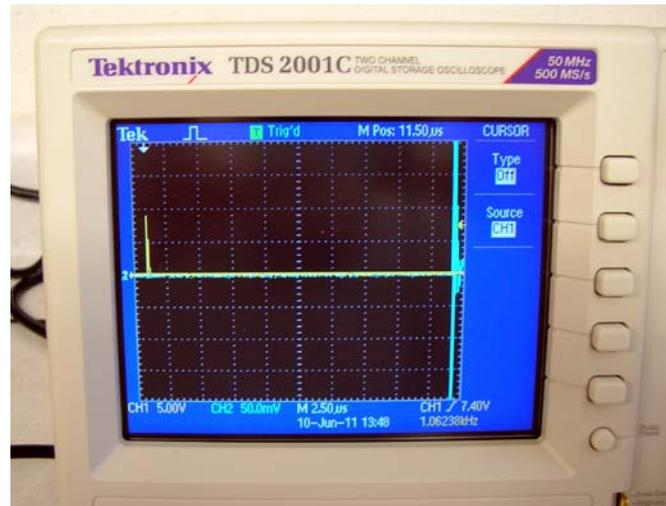

Figure 1-5. Oscilloscope with probes in place.
- Check that two waveforms appear on the oscilloscope as shown in figure 1-5. Adjust the horizontal scale and the horizontal position so that the two pulses are at least a half a screen apart.